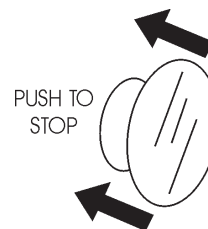

Figure 21. Start/Stop Button (Stop Position)
1. Push the main **start/stop** switch (Figure 21) inward to stop the engine.